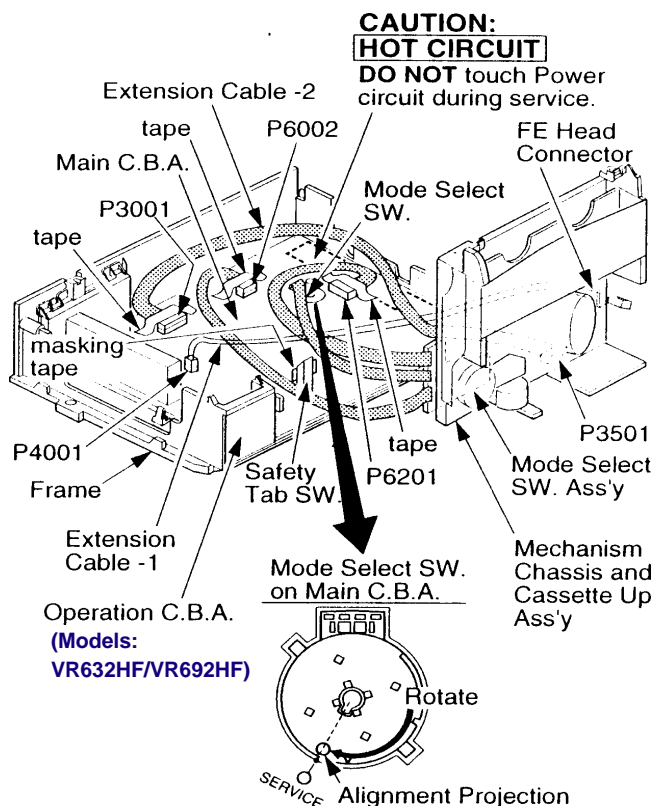

Fig. 6 - Service Position 3
3. Position the VCR chassis unit as shown in Fig. 6 and connect the extension cables as described below.